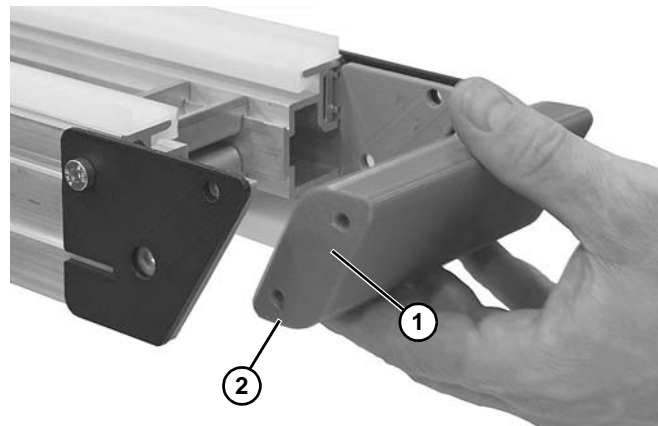

**Figure 84**
- On both sides of conveyor, remove two fastening screws (**Figure 84, item 1**).